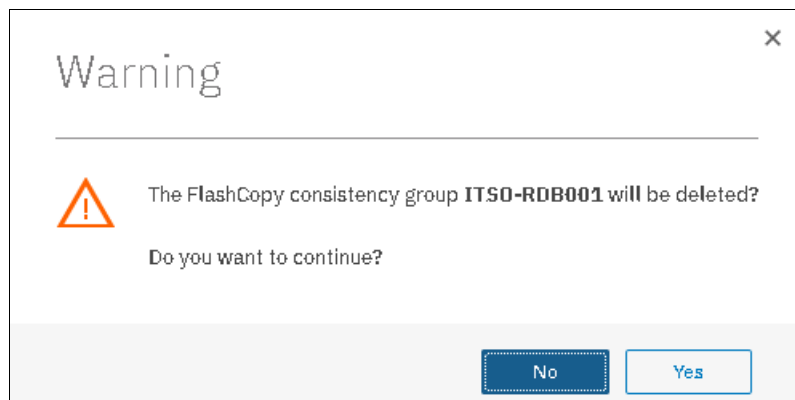

Figure 10-57 Warning window
3. The Warning window opens, as shown in Figure 10-57. Click **Yes**.